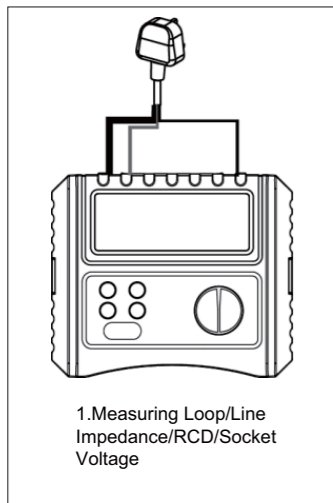

Figure 7
Or connect as shown in Figure 7:
XI. Measuring Loop Impedance/Prospective Fault Current (See Figure 7, 8)
XIII. Measuring Line Impedance/Prospective Short Current (See Figure 7, 8, 9)
XIV. Taking Auto RCD Tests (See Figure 7)
- Insert three connectors of one-plug test leads into three input terminals of the Tester (red to red, green to green, black to black). (Refer to Figure 7)
XV. Taking Regular RCD Tests (See Figure 7)